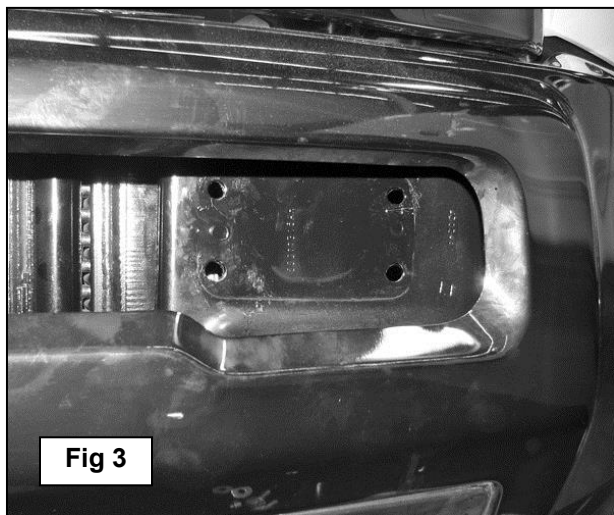

Fig 3
- Starting on the driver side, remove the (4) factory hex bolts and nuts, (**Figure 1 & 2**), securing the tow hook to the frame. **NOTE:** It may be necessary to use a long extension to reach between the frame and the radiator to remove the inner factory hex nuts, (**Figure 2**). Place the hardware and tow hook aside. Insert the driver side Frame Mounting Bracket through the opening in the bumper and up to the mounting surface, (**Figure 3 & 4**). Use the supplied longer (4) 10mm x 45mm hex bolts, (8) 10mm Flat Washers, (4) 10mm Lock Washers and (4) 10mm Hex Nuts, (**Figure 4**), to go through the tow hook and the Frame Mounting Bracket. Snug but do not tighten hardware at this time. Repeat this step for the passenger side Frame Mounting Bracket installation.